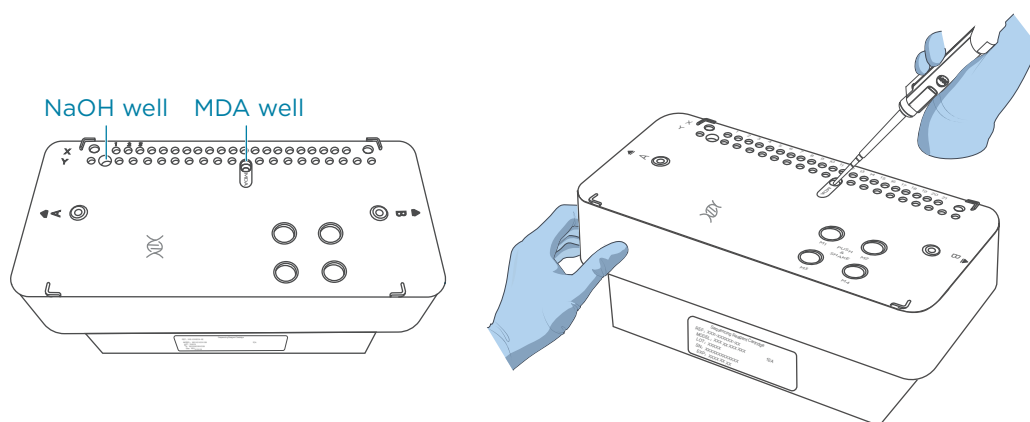

Figure 13 Adding MDA mixture
5. Pierce the seal of the MDA well by using a clean 1 mL sterile pipette tip. The position of the MDA well is shown in *Figure 13 on Page 62*.